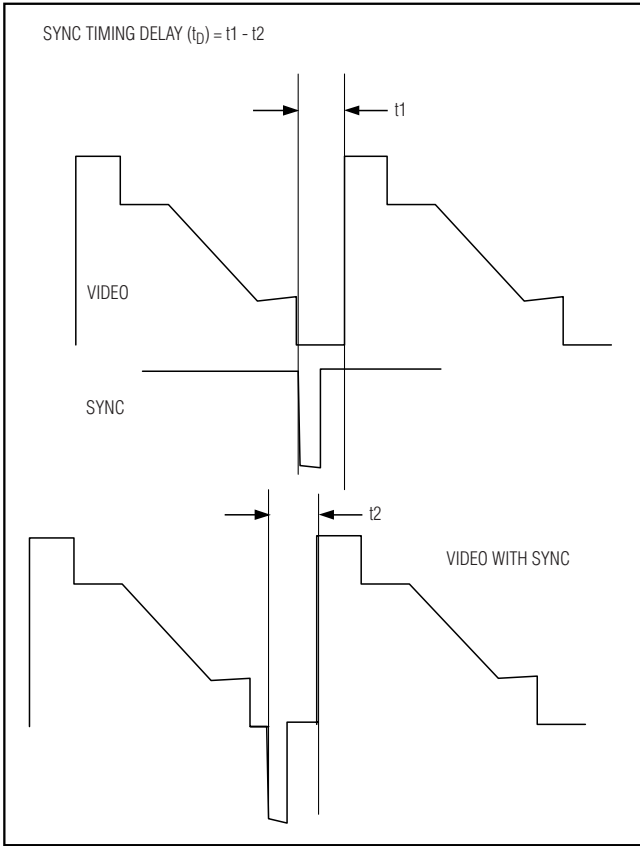

Figure 1. Sync Timing Delay ( $t_D$ ) =  $t_1 - t_2$
**Note 5:** The sync timing error is measured as follows: The input signals are measured from the falling edge of H sync/V sync to the start of active video, called  $t_1$ . The output signal is then measured from the falling edge of H sync/V sync to the start of active video, called  $t_2$ . All measurements are at the 50% points as shown in Figure 1.